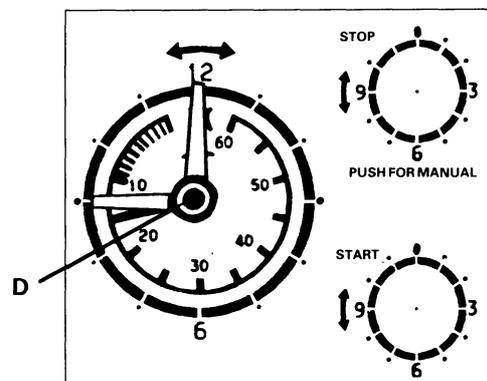

Fig. 1
Push in and turn the control knob (D) in either direction until the correct time of day is displayed, e.g. 9 a.m. as shown in Fig. 1.